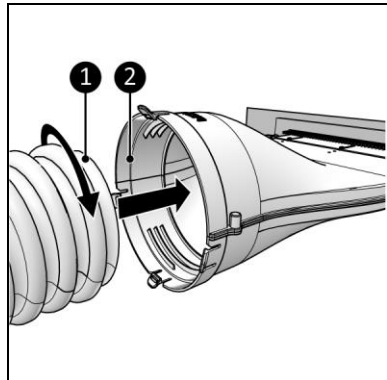

Figure 8
- With a rotating system, for a hose without a collar (Figure 8, pos. 1).
1. Insert the air conditioning hose (Figure 8, pos. 1) into the main body (Figure 8, pos. 2) and tighten.